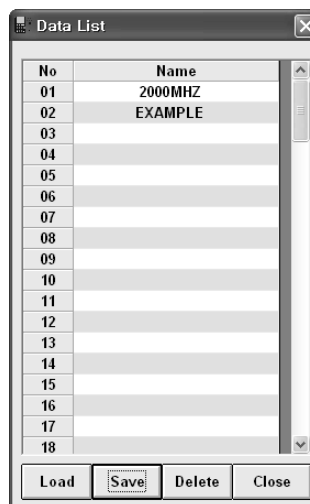

Figure 4.10 The window to manage “Save File”
- 3) Reference level value support, as following figure 4.10 directly inputting or select combo box list etc.